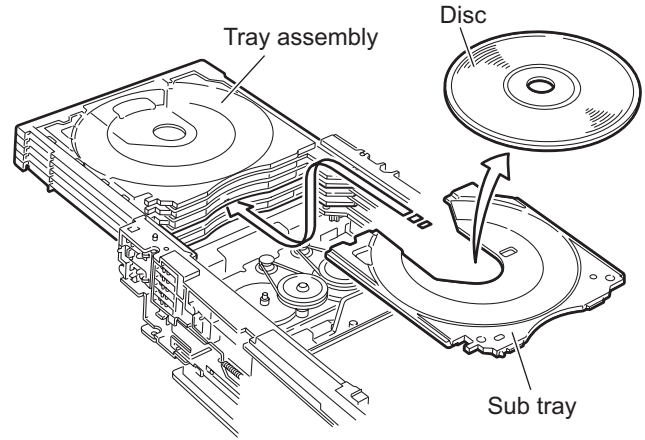
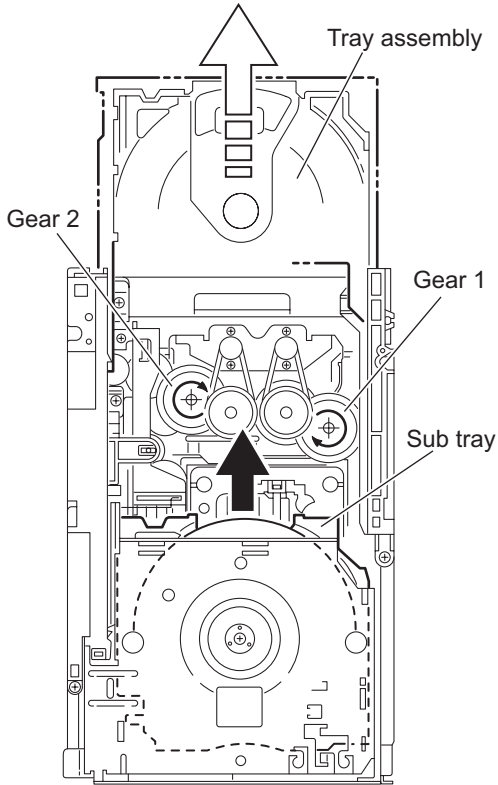

Fig.40
Fig.39
3.2.15 Taking out the disc in the play mode (See Fig.39 to 42)
- (1) From the top side of the DVD changer mechanism assembly, remove the top cover.
- (2) Unlock the tray assemblies and draw out the tray assemblies toward the front.
- (3) From the top side of the DVD changer mechanism assembly, turn the gear 1 clockwise to move the lifter assembly upward. (See Fig.39.)
- (4) Turn the gear 2 clockwise to move the sub tray remaining inside the lifter assembly toward the front, then pull out.
- (5) Take out the disc on the sub tray. (See Fig.40.)